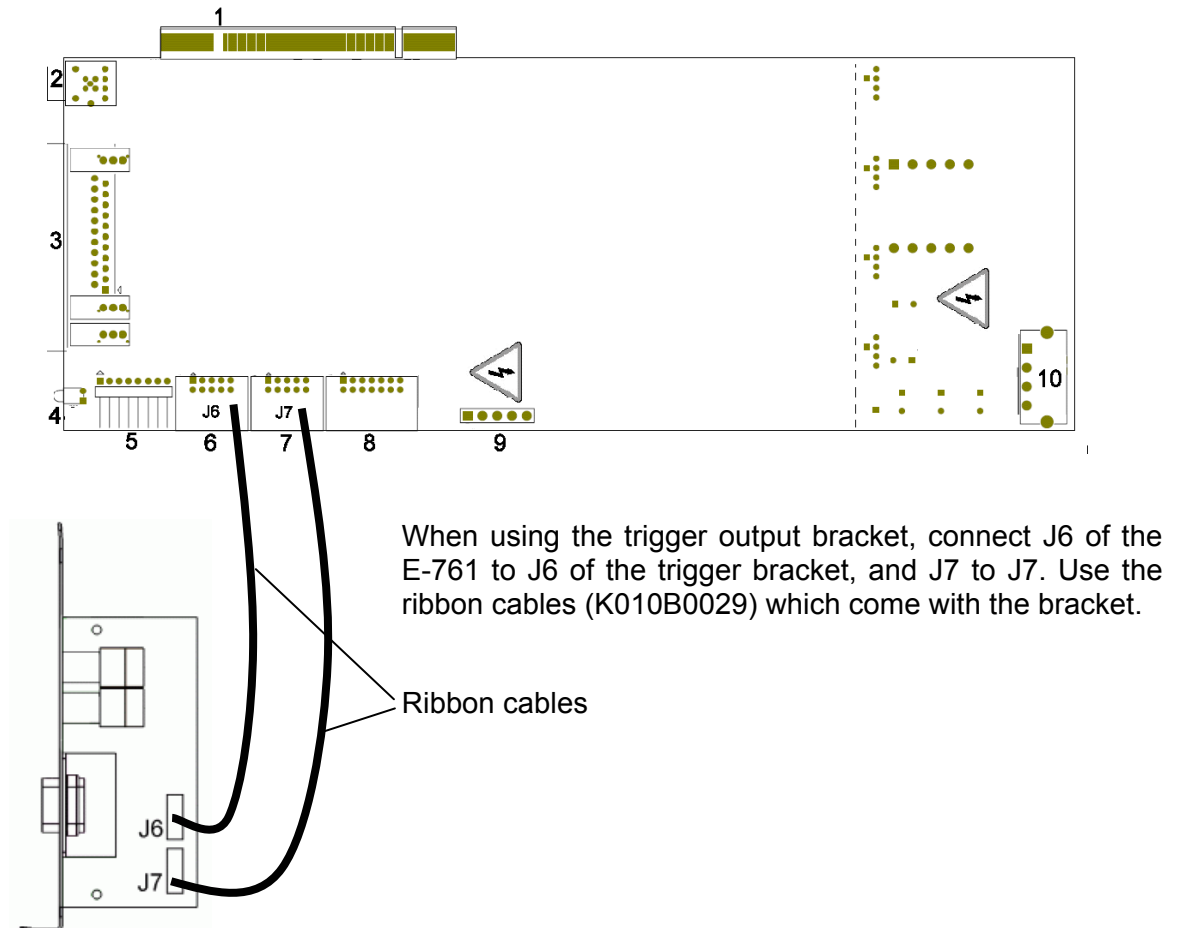

Fig. 3: E-761 and trigger output bracket interconnected with two ribbon cables
- d) Connect the ribbon cables from the bracket to the corresponding sockets on the E-761: J6 to J6 and J7 to J7 (see Fig. 3 on p. 20).